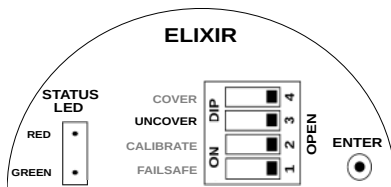

Figure 23: Saving Uncover Delay
4. Uncover Delay is entered, but not saved. To save and test the uncover delay, set the UNCOVER switch back to OPEN position as shown in Figure 23.